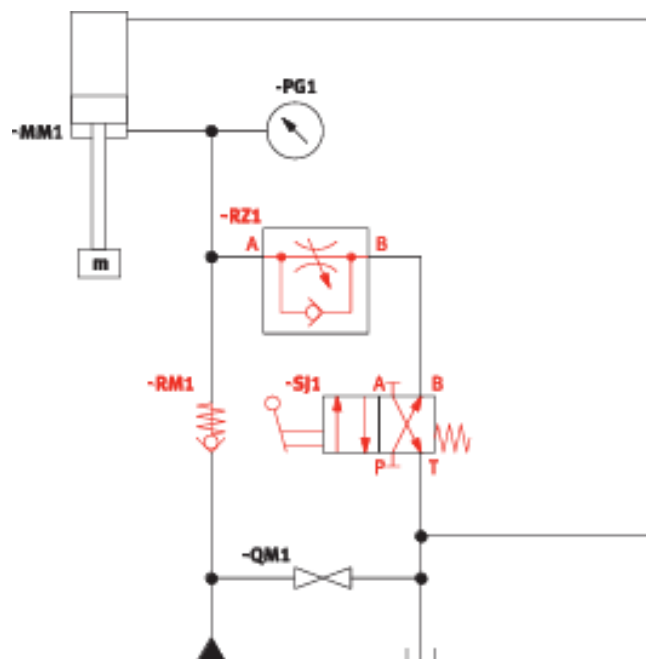

Figure 5.14: A load-holding circuit using a pilot-operated check valve to safely lock a vertical cylinder.
**3. Circuit Analysis: A Safe Load-Holding Circuit** Figure 5.14 shows this valve used to hold a vertical cylinder:
2. Build the circuit as shown in Figure 5.14. You will need: